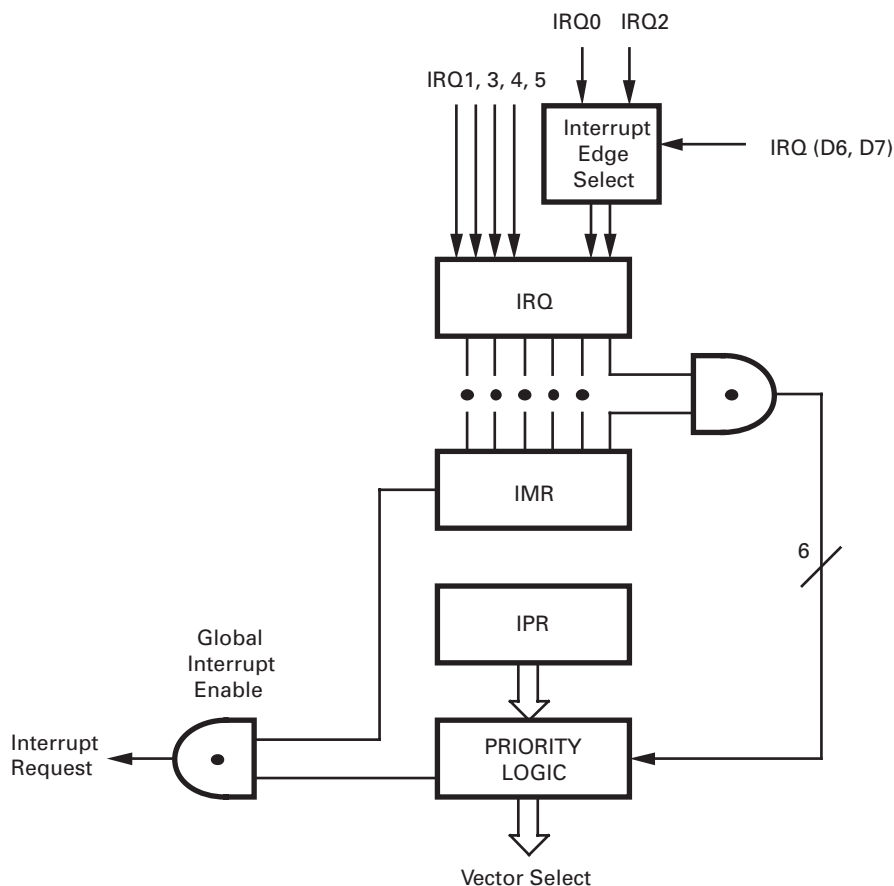

Figure 23. Interrupt Block Diagram
**Interrupts.** The Z8 features six different interrupts from six different sources. These interrupts are maskable, prioritized (Figure 23) and the six sources are divided as follows: four sources are claimed by Port 3 lines P33–P30, and two in counter/timers (Table 11). The Interrupt Mask Register globally or individually enables or disables the six interrupt requests.